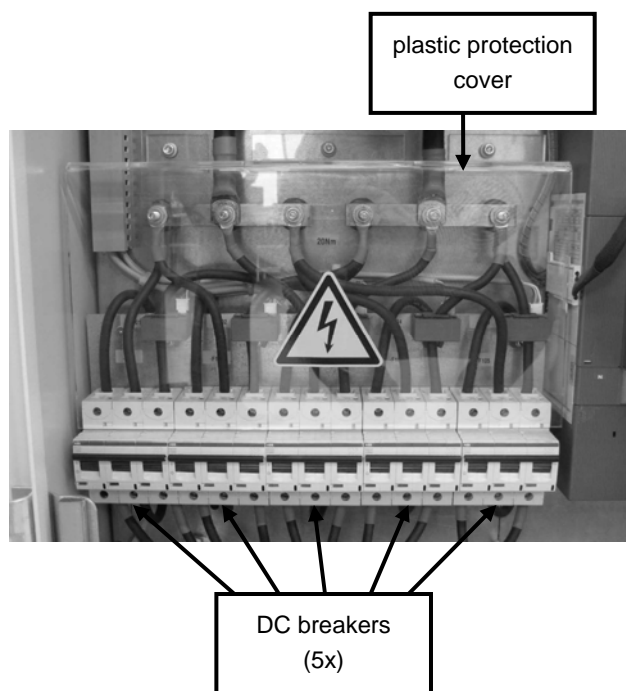

Figure 11: Connection to DC circuit breakers
- **Connection to DC circuit breakers.** See section 5.5.3. The CP-inverter can be equipped with up to five DC breakers which are situated at the lower left hand side of the cabinet. See figure 11. The polarity is marked just below the circuit breakers. The DC cables must be provided with cord end terminals. Maximum cross section: 70mm². All PV arrays must be of identical length.
- 1 Remove the plastic protection cover which is in front of the DC circuit breakers (see figure 11).